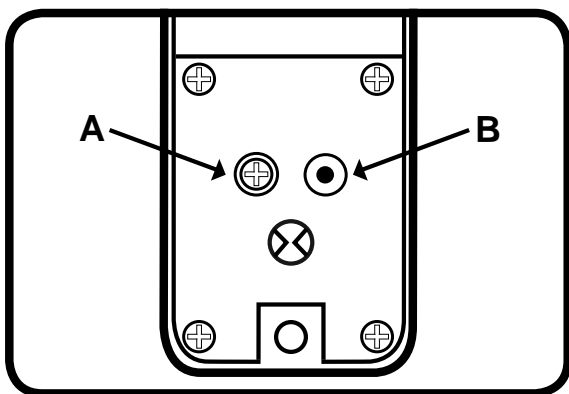

Fig.1
2. Reposition the blue coloured handing screw on the back of inside handle so it will rotate in the opposite direction as per **fig.1** below. From the outside of the gate the screw position will need to be position **A** if it is right hand hung or position **B** if it is left hand hung.